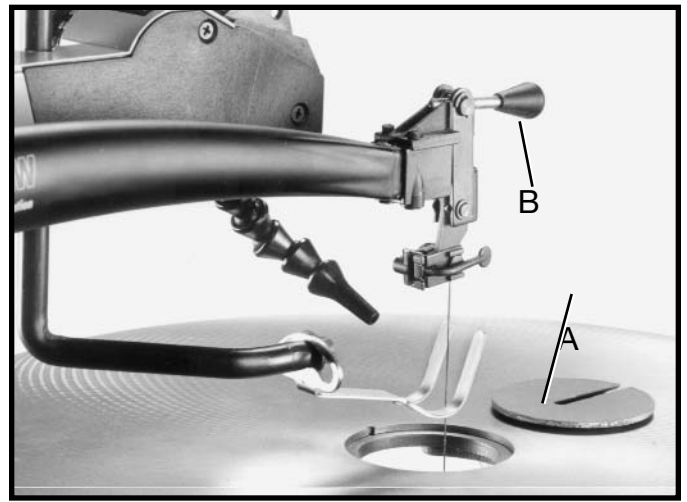

Fig. 24
2. Remove table insert (A) Fig. 24, and release blade tension by pulling tension lever (B) forward, as shown.